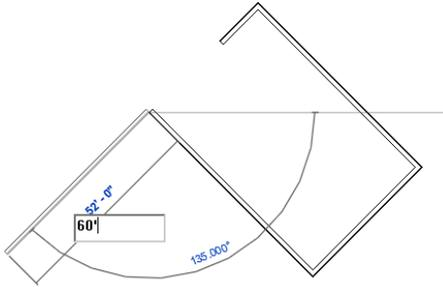

**Figure 3-45** Sketching the third inclined wall segment
6. Similarly, for creating the next wall, move the cursor downward to the left and choose the perpendicular snap override as in step 5. Enter **40'** (**12192 mm**) as length, as shown in Figure 3-45. Now, press ENTER to create the third inclined wall.